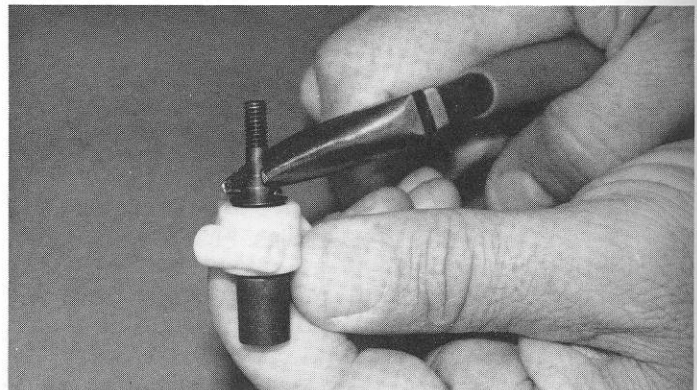
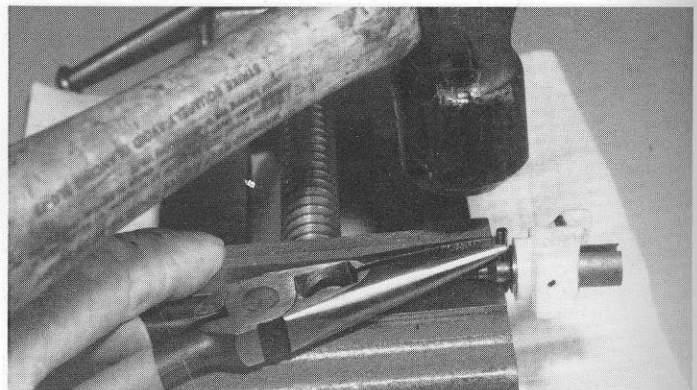

Fig. 99
Fig. 100
□ **Figs. 99, 100 & 101** There are two different techniques commonly used to install the #6375 roll pins. For both techniques, squeeze one end of the roll pin with a pair of pliers. The first technique requires you use a needlenose pliers (fig. 99) or slip joint pliers (fig. 101) to squeeze the roll pin into the axle. If you are unable to use your pliers you can use a vice and hammer as shown in fig. 100: Set the axle on your vice. Hold the roll pin aligned over the hole in the axle with your pliers. Lightly tap the pin into the axle until the pin is evenly spaced.